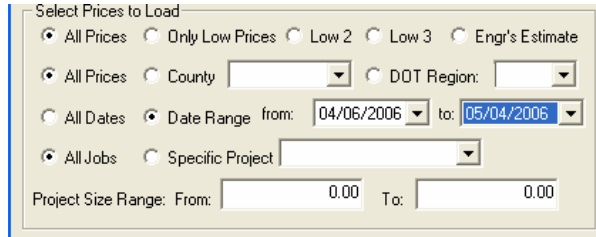
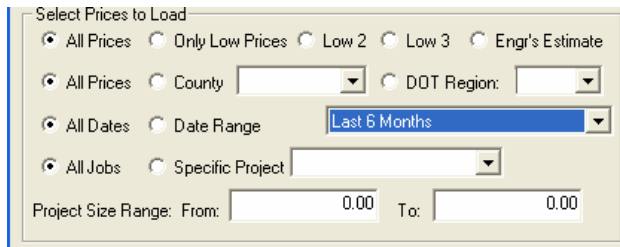

Figure 2.16
Figure 2.17
This option allows you to load prices and calculate averages from a specific letting or range of lettings. There are three types of date ranges you can enter: (1) all dates, (2) specific dates (i.e. starting and ending dates) as shown in Figure 2.16 or (3) pre-defined date ranges (i.e. last 6 months, last year, etc.) as shown in figure 2.17